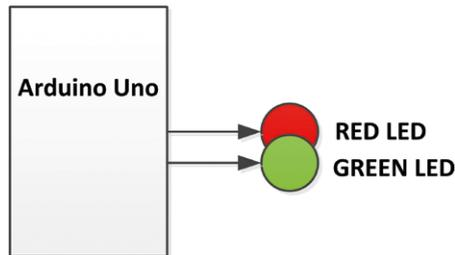

Figure 1.4 Block diagram of the project
**Block diagram:** The block diagram of the project is shown in Figure 1.4.